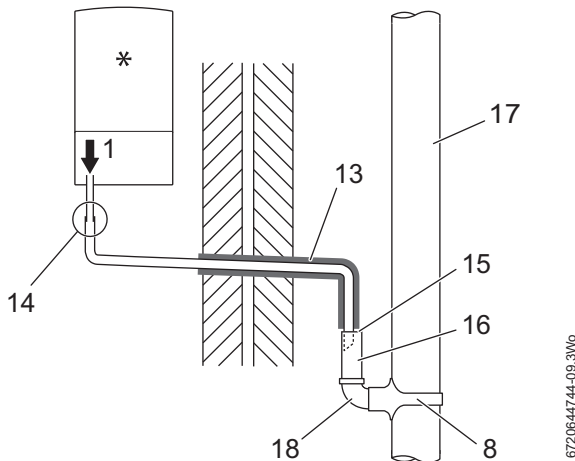

Fig. 8 Disposal into a rainwater down pipe
- Refer to figure 8 when a rain water down pipe is used to dispose of condensate.